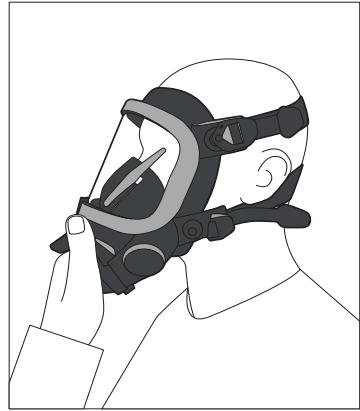

Fig. 4
2. Close the mask connector with your palm (figure 4).